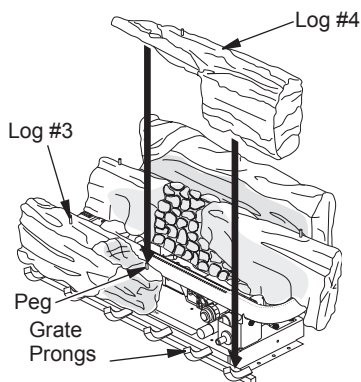

Figure 22 - Placement of Front Logs (Log #3 and Log #4)
3. Place left front log (log #3) on grate prongs as shown in Figure 22, page 16.
4. Place right front log (log #4) on peg of log #3 and grate prongs as shown in Figure 22, page 16.